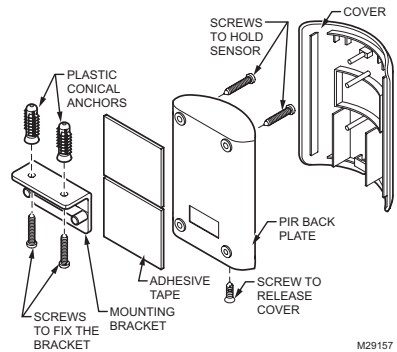

Fig. 10. PIR occupancy motion sensor mounting options.
- Ceiling mount option: Align the mounting bracket and PIR back plate as shown in Fig. 10. Insert the two small screws into the top holes of the back plate and secure it to the bracket. Use the two long screws (and, if necessary, the optional plastic anchors) and mount the bracket and PIR back plate to the ceiling.